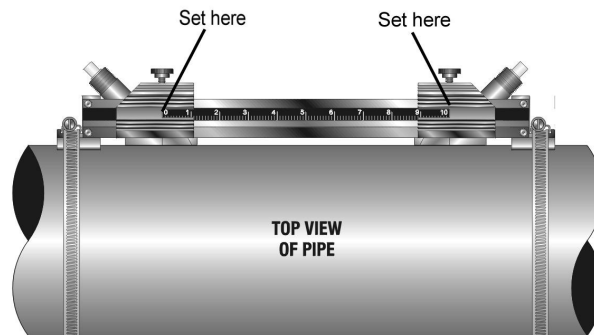

Figure 2.10
5. Place the first transducer in between the mounting rails near the zero point on the mounting rail scale. Slide the transducer clamp over the transducer. Adjust the clamp/transducer such that the notch in the clamp aligns with zero on the scale. See **Figure 2.10**.